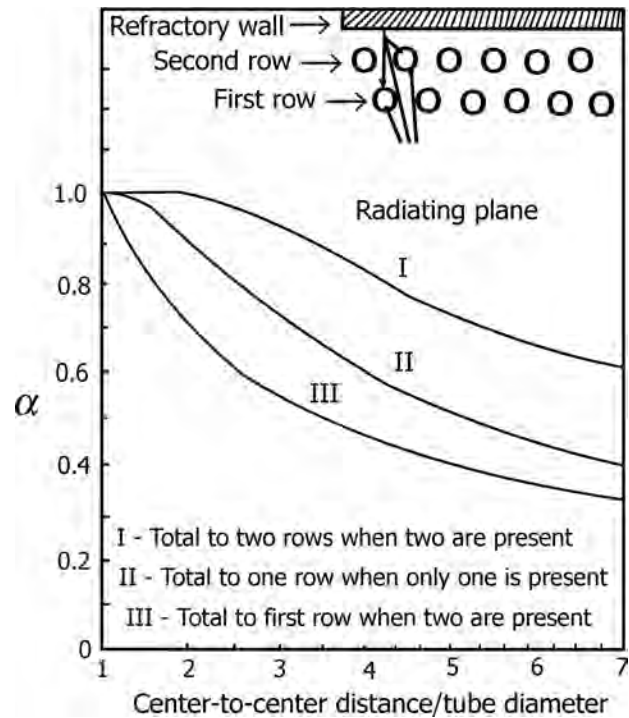

FIGURE 14.6 Absorption efficiency of the tube banks.
- α is estimated from published charts for different tube arrangements. A typical chart is illustrated in Figure 14.6.